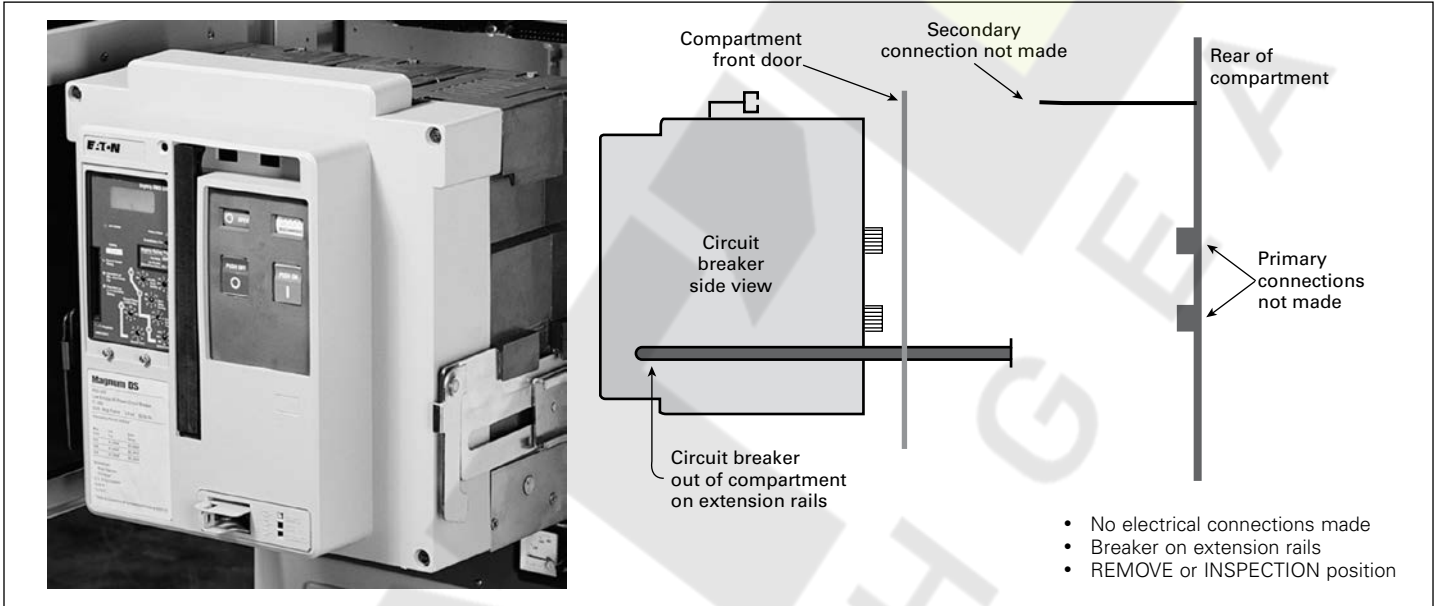

Figure 11. REMOVE position
- REMOVE (withdrawn) (**Figure 11**)